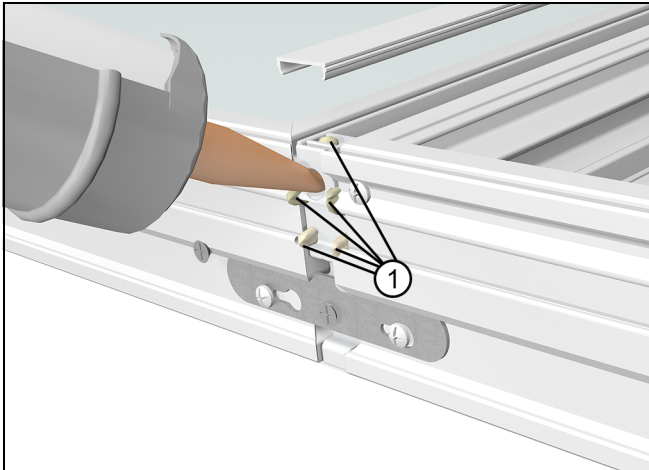

Figure 10
1. Using a high quality sealant loaded into a caulking gun, insert the nozzle into the injection hole on the mull plug and inject with sealant. You will know there is enough sealant injection when overflow appears in the nailing fin channel below the injection hole. See Figure 10.